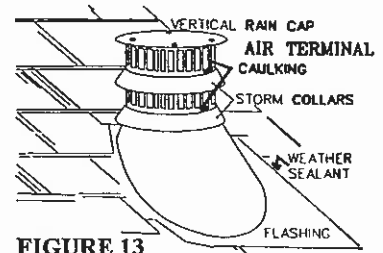

FIGURE 13
7. Apply a heavy bead of weatherproof caulking 2 inches above the flashing. Slide the storm collar around the air terminal and down to the caulking. Tighten to ensure that a weather-tight seal between the air terminal and the collar is achieved. Attach the other storm collar centered between the air intake and the air exhaust slots onto the air terminal. Tighten securely. **FIGURE 13.** Attach the vertical rain cap.